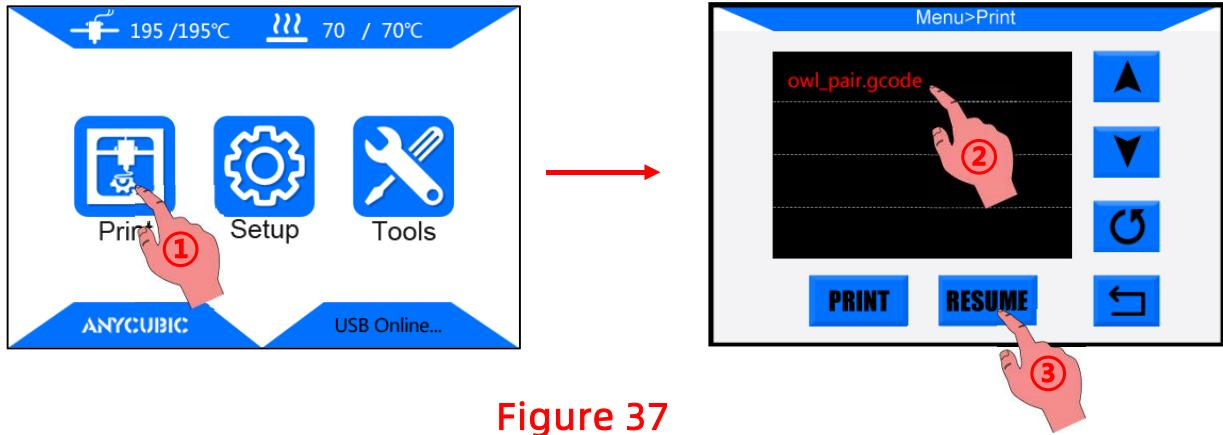

Figure 37
3. During printing, if there is an accident power loss, the print will stop immediately. But after power comes back, customers could choose “Print” → select the unfinished file → “RESUME”(Fig.37), machine will home first and continuing on the unfinished object.